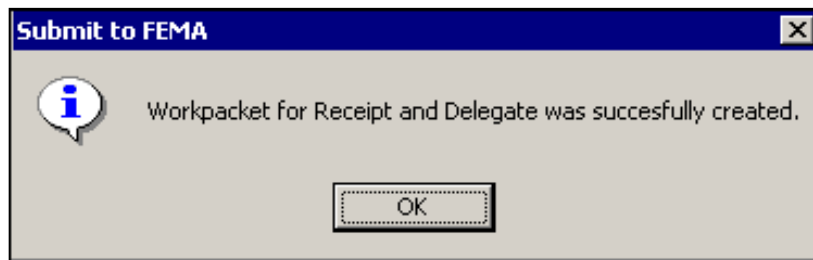

Figure 8-14: Work Packet Created Message
9. Click the YES button. The project application is submitted to FEMA. A message is displayed that the work packet for the Receipt and Delegate task in the Eligibility Determination process was created (Figure 8-14).